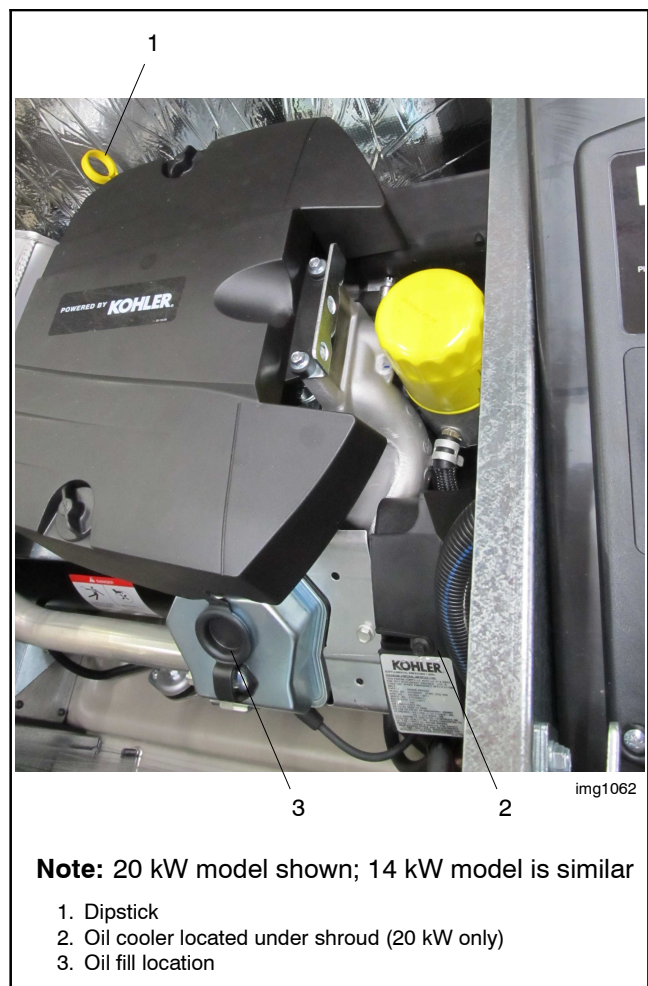

Figure 4-3 Oil Fill Components
- Add oil through the oil fill port; see Figure 4-3.
See Figure 4-3 and Figure 4-4 for the oil cooler location. The oil cooler is located under the No. 2 cylinder shroud. Remove the top mounting screw and loosen the two side screws, then lift off the cylinder shroud.